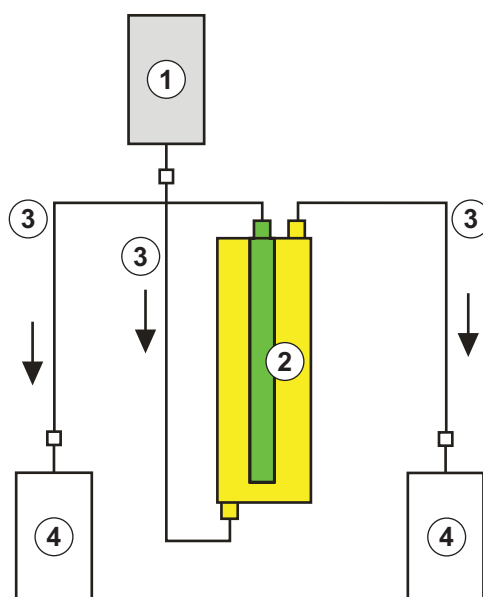

Fig. 6-2 Set-up for precipitate filter rinsing
Materials: See legend to Fig. 6-2
2. Attach the remaining connection lines and the collection bags as shown in Fig. 6-2 with the upper precipitate and filtrate-side opening of the filter and clamp the line on the filtrate side.